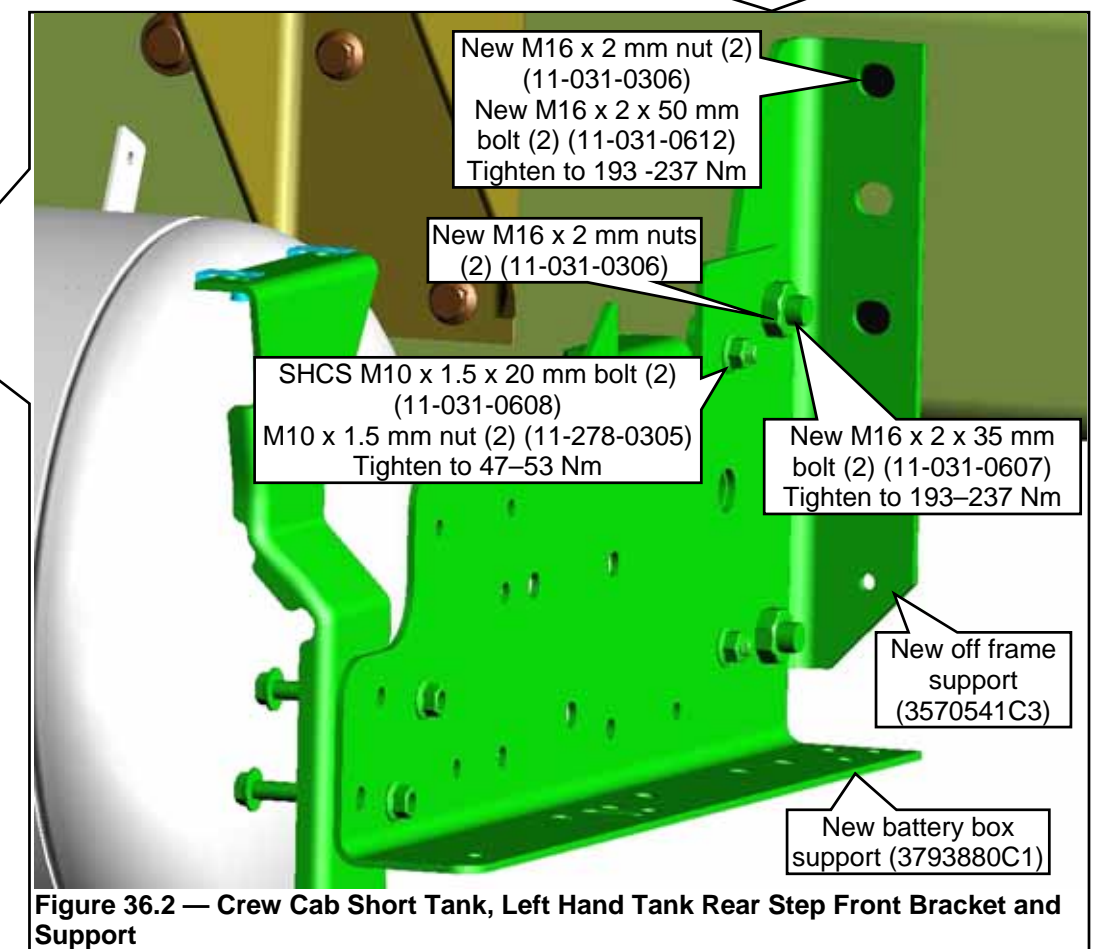

Figure 36.2 — Crew Cab Short Tank, Left Hand Tank Rear Step Front Bracket and Support
- Assemble the off frame support, the battery box support and the LH tank bracket using the M10 and M16 fasteners. Position the assembly to the LH frame rail where the holes were drilled. Install two of the M16 x 2 x 50 mm bolts from the inside through the cab rear support crossmember. The lower bolt also goes through the ABS module bracket. Secure the assembly with the two M16 x 20 mm nuts. Tighten the M16 bolts and nuts at the frame rail and two M16 bolts at battery box support bracket to specification. Tighten the bracket M10 bolts and nuts to specification. **Figures 36.2 and 36.3.**